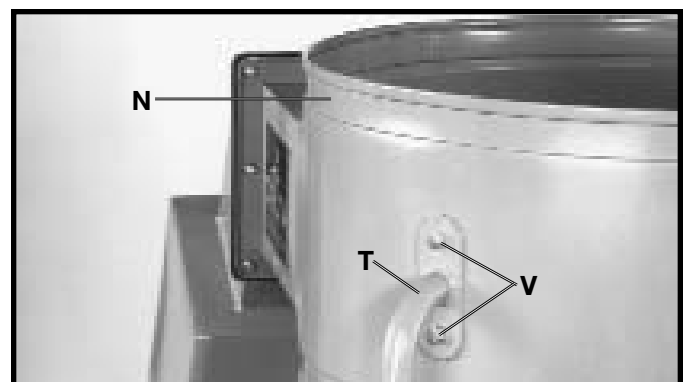

Fig. 15
10. Align two mounting holes in the top of drum support arm (T) Fig. 15, with two pre-drilled holes in drum (N). Place a 5/16" lockwasher then a 5/16" flat washer onto a 5/16-18x5/8" hex head screw, insert the hex head screw through the hole (V) in drum support and drum. Thread a 5/16-18 hex nut onto the hex head screw. Repeat this process for the remaining hole. **NOTE:** Do not completely tighten mounting hardware at this time.